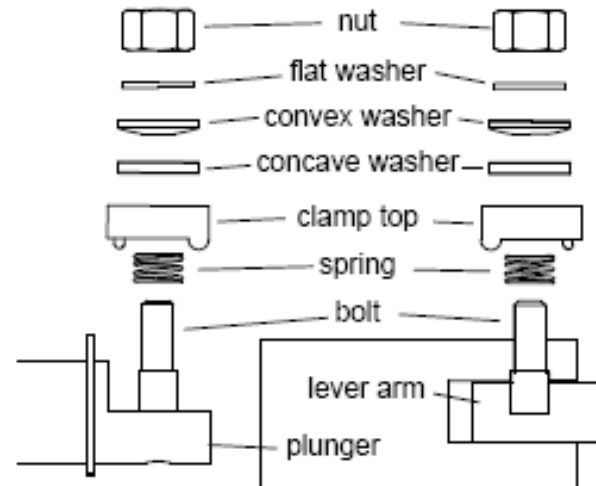

FIG.:3. Remove clamps (side view)
- For each coupon clamp, remove the nut, washers, clamp top, and spring from the bolt (Fig. 3).